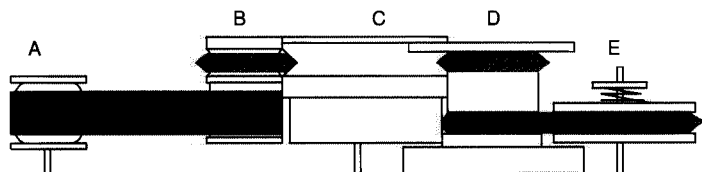
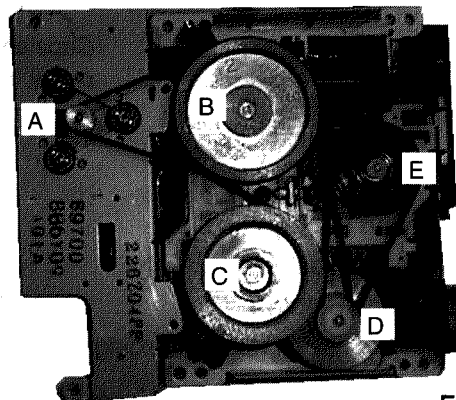

Fig.29
Fig.30
1. Install the flywheels and belts as shown in the figure below. (Fig.29, Fig.30)